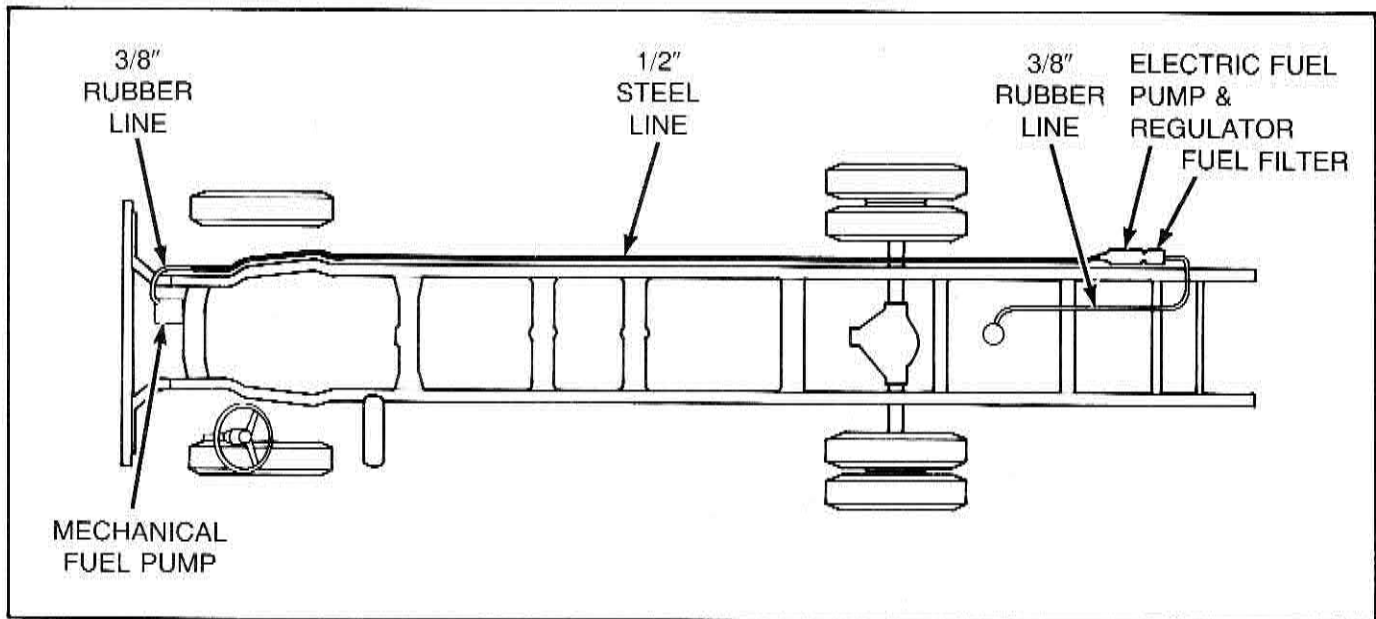
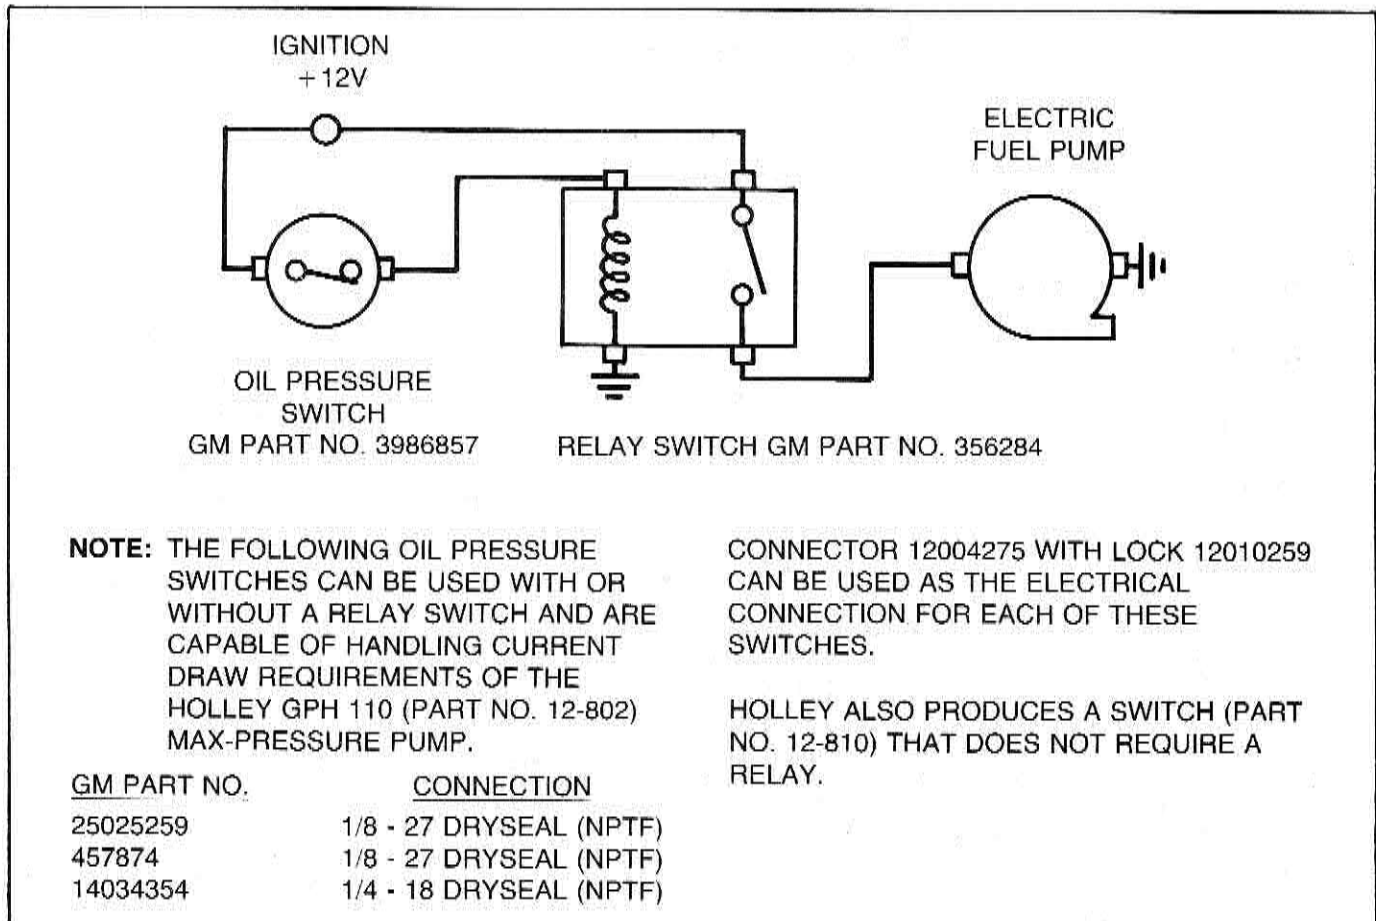

Figure A7-7-2 — 1984 Recommended Field Fix
Figure A7-7-3 — Electric Fuel Pump/Oil Pressure Switch Relay
- A one-half inch steel fuel line mounted on the outside of the frame rail, protected against rub and chafe (see Figure A7-7-2).
- An electric fuel pump mounted off the frame at the tank using an adjustable regulator set to 5 PSI at engine idle measured at the mechanical pump inlet (see Figure A7-7-2). Best success was obtained with the Holley Fuel Pump (No. 12-802) that includes a regulator and has ample volume for this engine (see Figure A7-7-3).
- Power for the electric fuel pump should be controlled through a relay or special oil pressure switch to assure shut-down in the event of vehicle upset (see Figure A7-7-3). Consideration could be given to a manual priming override in the event the system has totally run out of fuel. Normal starts would occur with the fuel remaining in the carburetor and upon starting as oil pressure came up the special switch or relay and would turn on